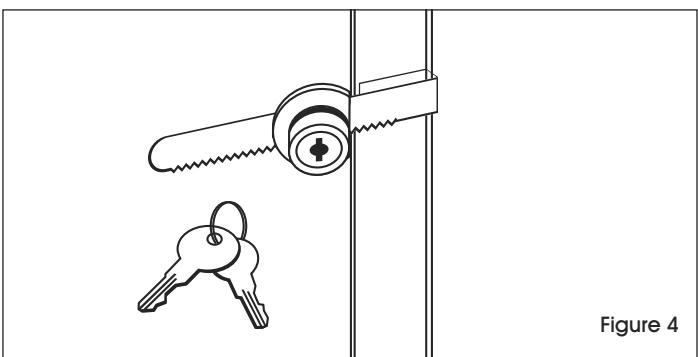

Figure 4
6. Attach the weather resistant lock onto the back of the plastic sheet with the screw heads facing towards the inside of the message center. Place small plastic protectors on the screw between the end and plastic sheet surface. Tighten the screws. Do not overtighten. Slide the lock over until it is flush against the other plastic sheet, then lock center with key provided. (See Figure 4)